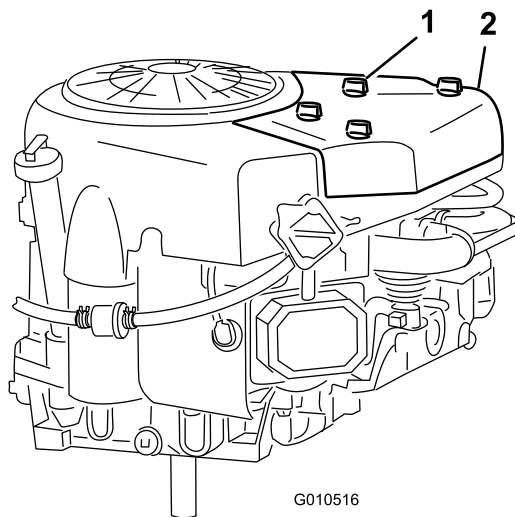

Figure 21
2. Unscrew the knobs and remove the air cleaner cover (Figure 21).
3. Install the air cleaner cover and knobs (Figure 21).